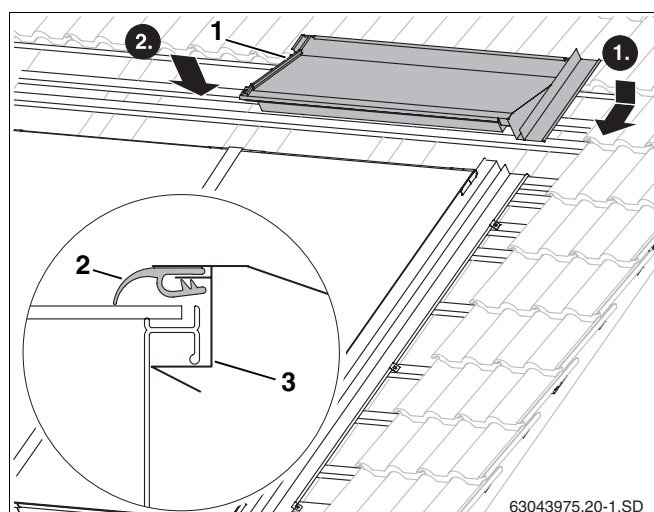

Fig. 56 Upper right facing panel
- ▶ Feed the upper right facing panel (Fig. 56, **Item 1**) into the side facing panel on the right.
- ▶ By applying pressure to the top of the facing panel, it clicks under the recessed channel on the collector frame (Fig. 56, **Item 3**).
- ▶ Place the rubber lip (Fig. 56, **Item 2**) on top of the collector.